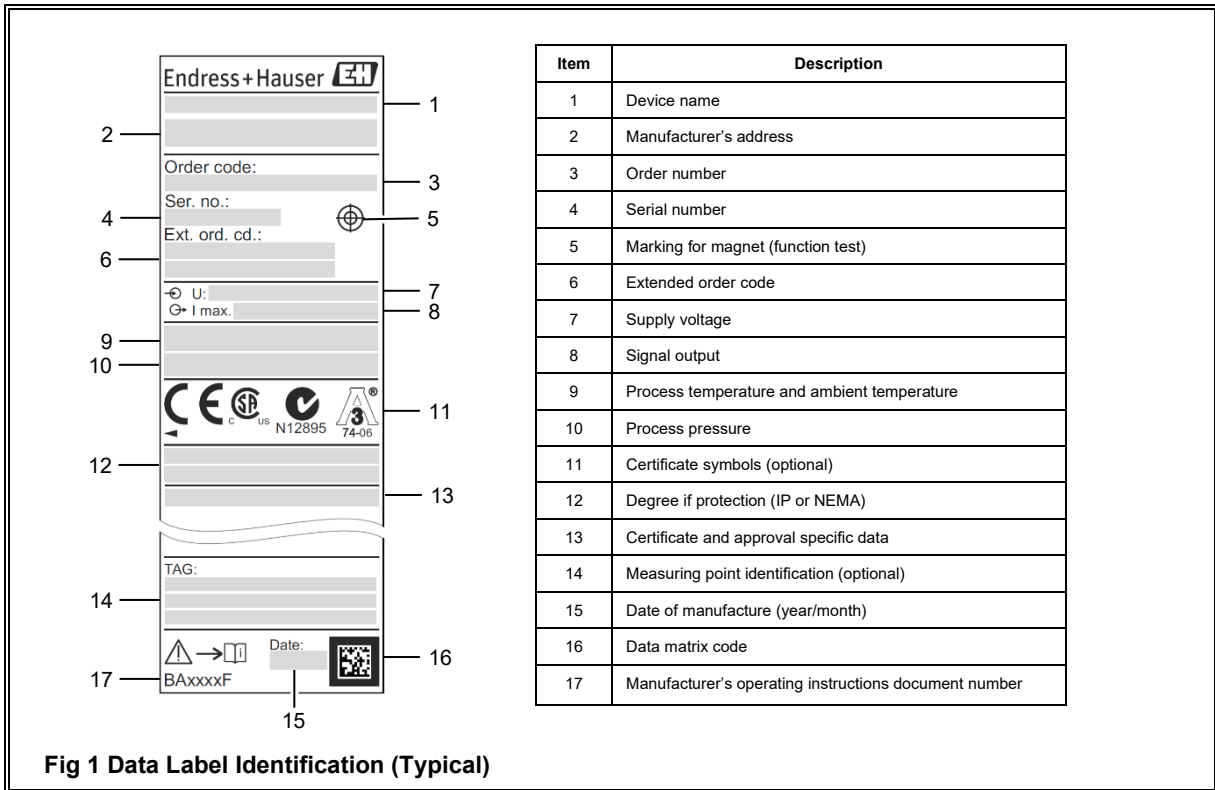

Fig 1 Data Label Identification (Typical)
- Complete nomenclature code which can be found from the data label fixed to the switch body; refer to Fig 1.